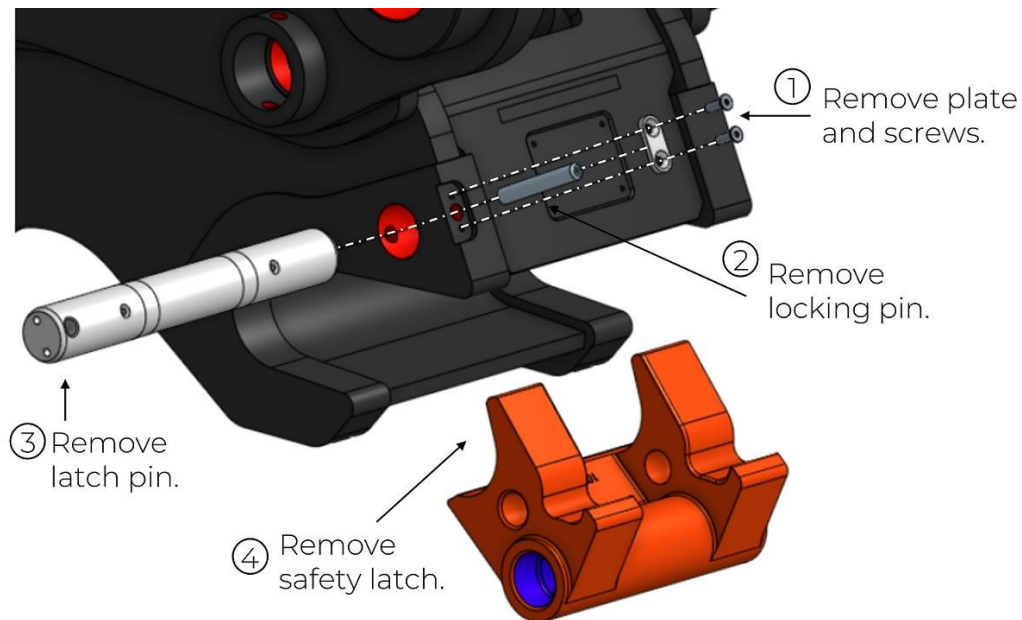

Figure 22: Removing the safety latch.
10. (**Note:** Skip this step if you're only replacing the grab hook or cylinder) Remove the safety latch as shown in Figure 22 below.